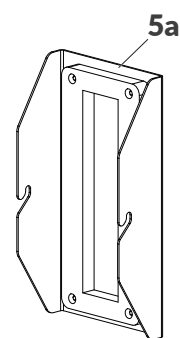

Fig. 23.
- standard sealing cover **5a** (one-sided item; see Fig. 23),